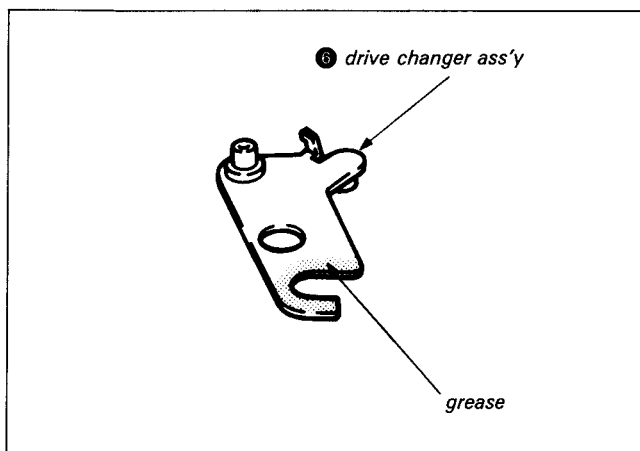
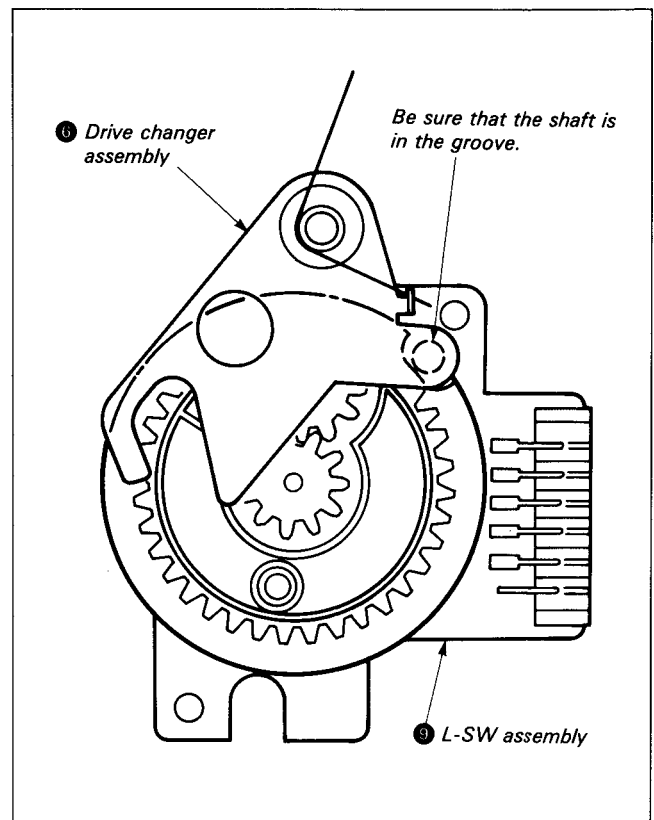

Fig. 7-34.
Fig. 7-35.
- 1) Place a half drop of oil on the L-SW assembly ⑨ spindle (planetary gear).
- 2) Mount L-SW assembly ⑨ and tighten with the two screws ⑧.
- 3) Connect connector ⑦.
- 4) Operate the mode selector and check that the L-SW assembly ⑨ rotates.
- 5) Place a half drop of oil on spindle ⑩.
- 6) Grease the drive change assembly ⑥ as shown in Fig. 7-34.
- 7) Mount the drive changer assembly ⑥.
- 8) Mount the torsion spring ⑤ and the stopper washer ④.
- 9) Operate the mode selector and check that the L-SW assembly ⑨ rotates.
- 10) Mount lock slider A ③ and tighten screw ②.
- 11) Mount lock slider retainer ①.
- 12) Operate the mode selector and set to the position in Fig. 7-35.